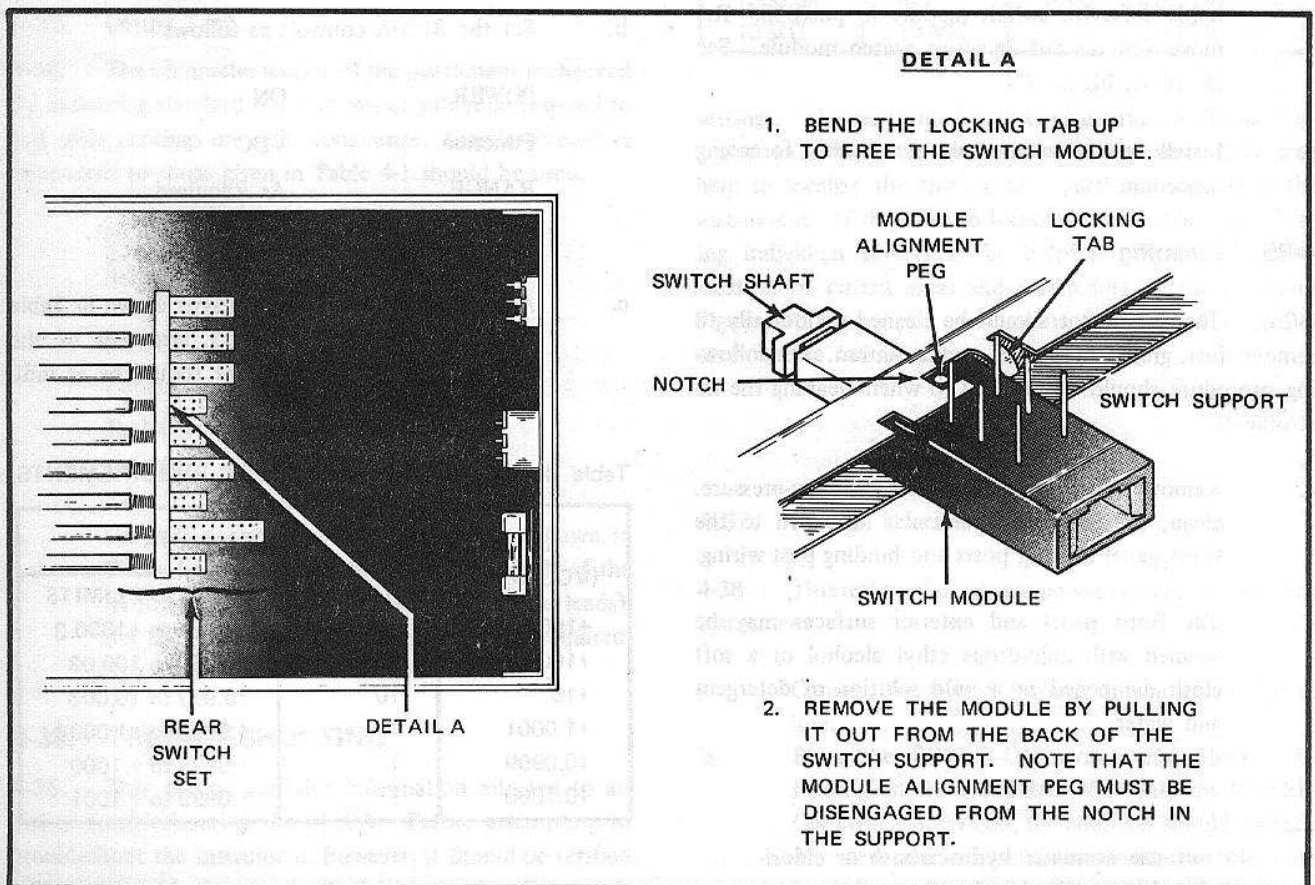

Figure 4-4. MODULE REPLACEMENT – REAR SWITCH SET
**4-23. SWITCH MODULE REPLACEMENT – REAR SWITCHES (Figure 4-4).**
- d. Bend up the locking tab (on switch support) which holds the defective switch module in position. Remove and discard defective switch module. See Detail A, Figure 4-4.